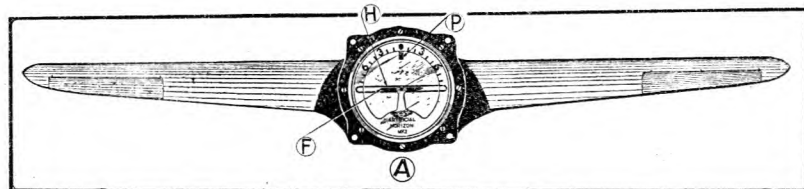

Fig. 1.
There are two types of Artificial Horizon in use—the Mk. I and the Mk. II. (A) Fig. 1 shows the dial of the Mk. I, mounted on wings in the same relation (only exaggerated) to the wings of the aircraft in which it is fitted. It is reading